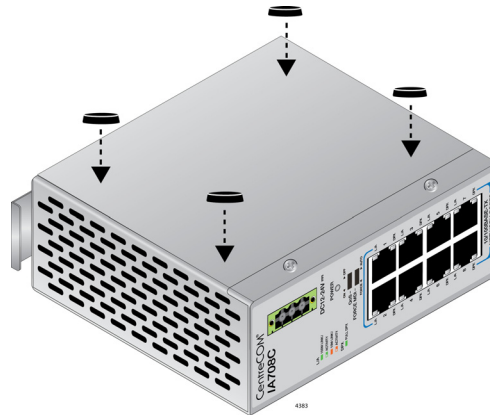

Figure 6. Attaching the Rubber Feet
4. Attach rubber feet as shown in Figure 6.